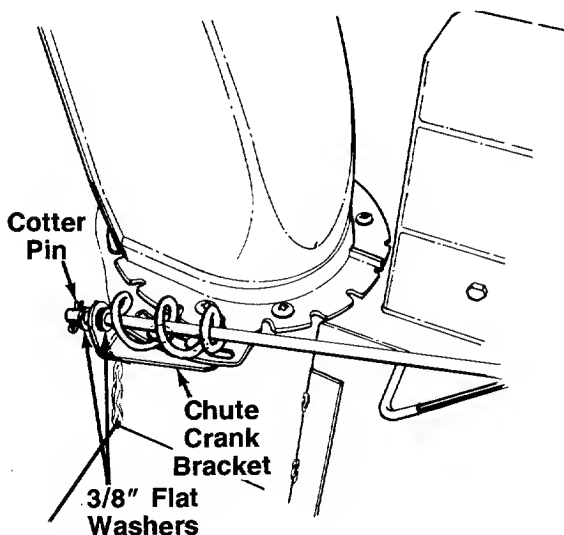

FIGURE 8.
5. Place one 3/8" flat washer on the end of the chute crank assembly. Insert the end of the crank into the plastic bushing in the chute crank bracket. See figure 8.